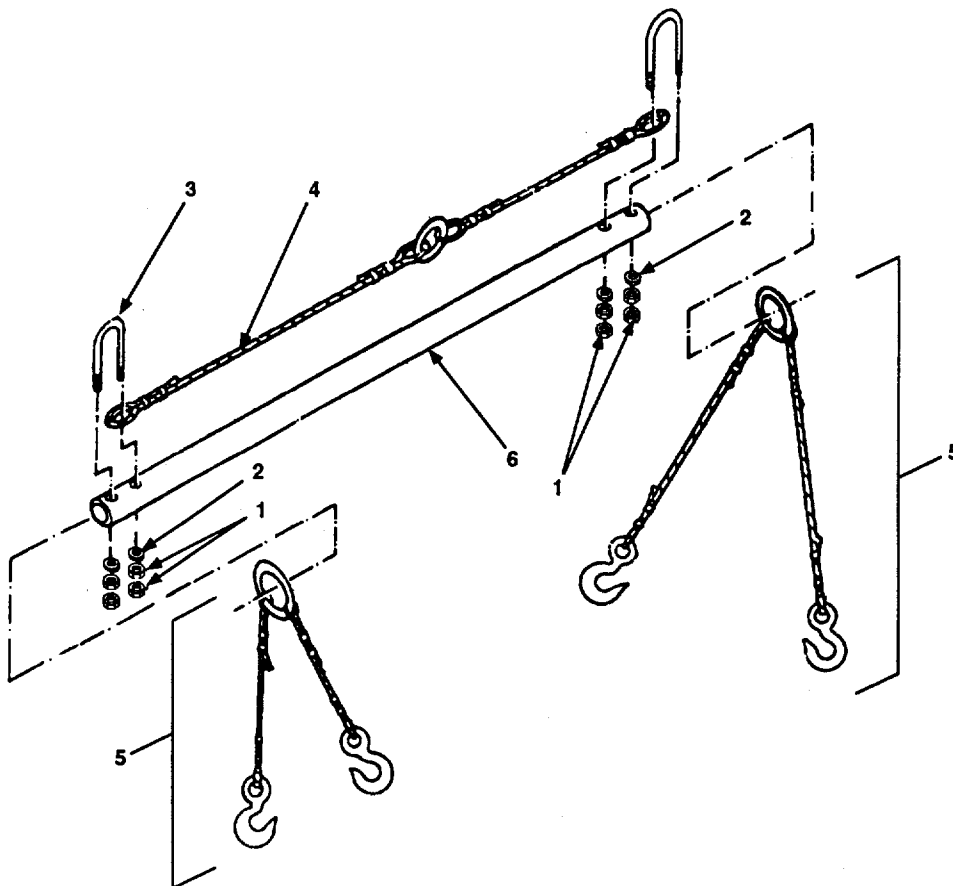

Figure 4-29. Sling Assembly Maintenance.
- a. Remove eight nuts (Figure 4-29, 1) and four flat washers (2).
- b. Remove two U-bolts (3).
- c. Remove 3/4 inch (1.9 cm) wire rope assembly (4), two 1/2 inch (1.3 cm) wire rope assemblies (5), and spreader bar (6).
- a. Inspect U-bolts (3) for distortion and worn or stripped threads.
- b. Carefully inspect 3/4 inch (1.9 cm) wire rope assembly (4) and two 1/2 inch (1.3 cm) wire rope assemblies (5) for loose splices, worn or broken wires, unraveled strands, and damaged thimbles.